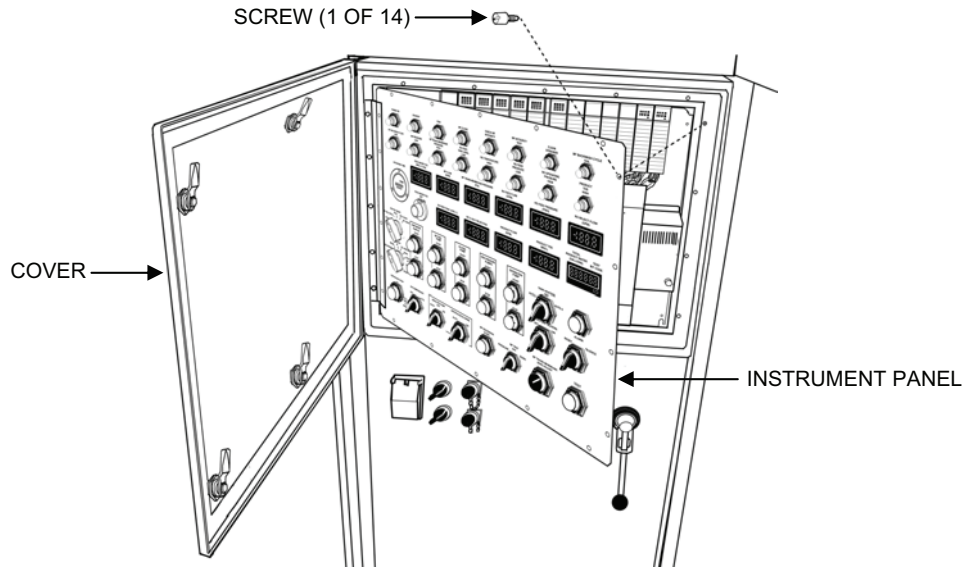

Figure 1. Opening the OCP Instrument Panel.
1. Open the cover to the OCP (see Figure 1).